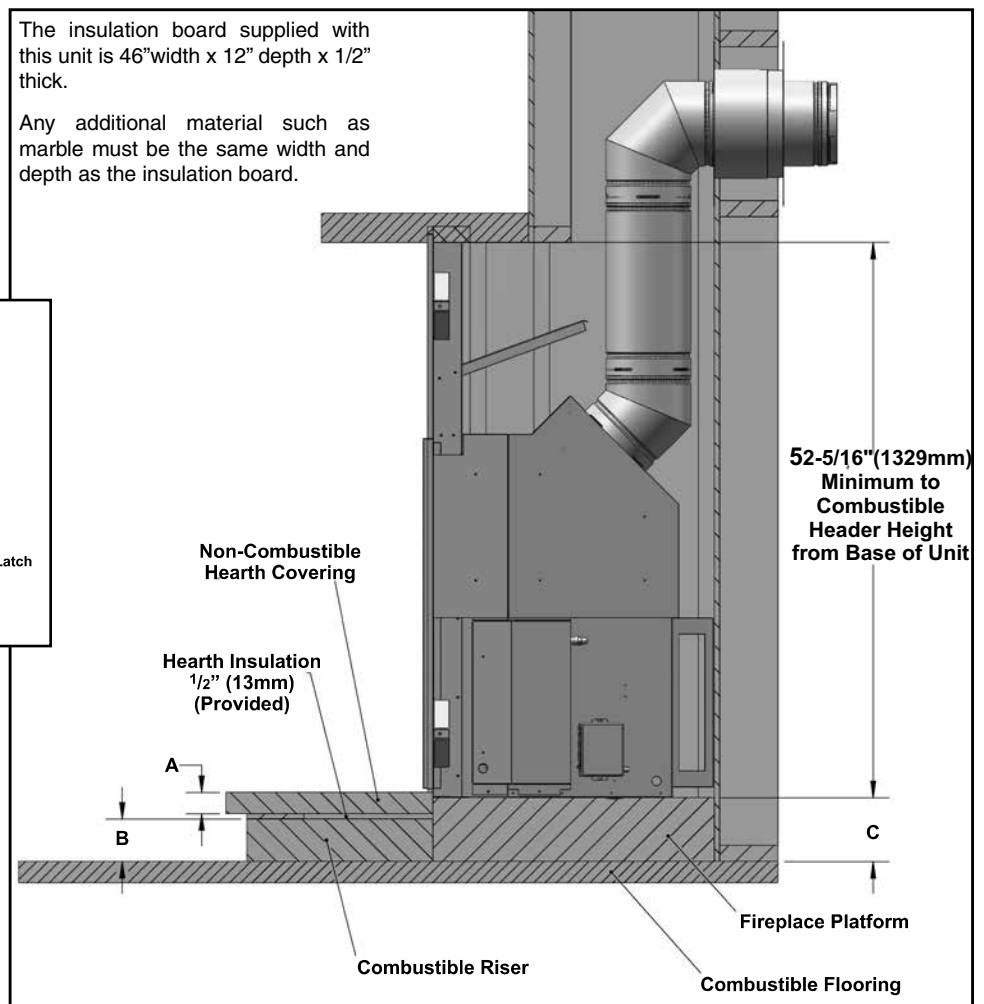

Figure 14. Typical Framing for a Raised Hearth - Detailed.
Figure 14 shows a raised hearth made of a wooden construction hearth riser (B), covered with the insulation board provided and then covered with non-combustible slate (A). The thickness of the riser (B) is 4" (102mm). The thickness of the slate (A) is 2" (52mm).  $A+B=C$  which is 6" (152mm). In summary, the fireplace must be raised by the same thickness of any material added in front of the fireplace.